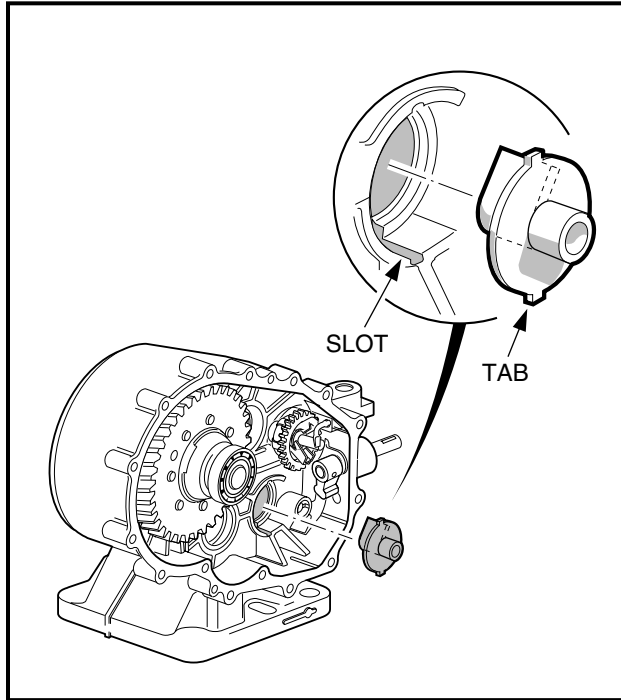

Figure 5-47 Oil Guide
- 7.3. Install the oil guide with the baffle toward the case wall (**Figure 5-47, Page 5-24**). Make sure the two tabs on the guide are positioned in the slots in the case.